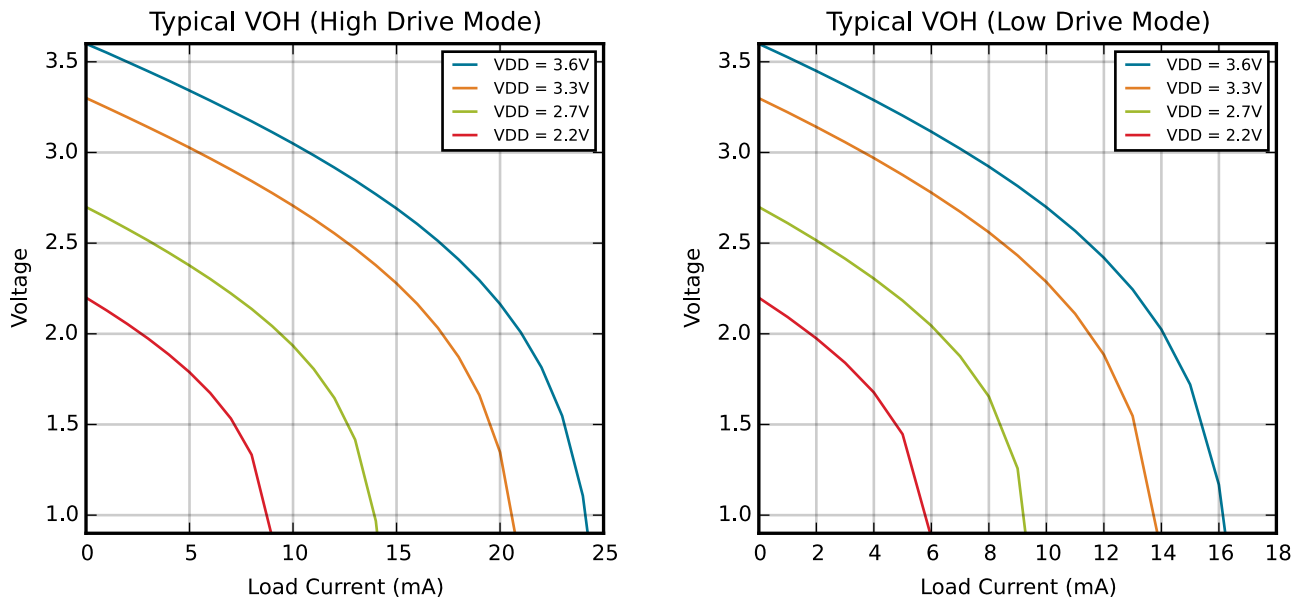
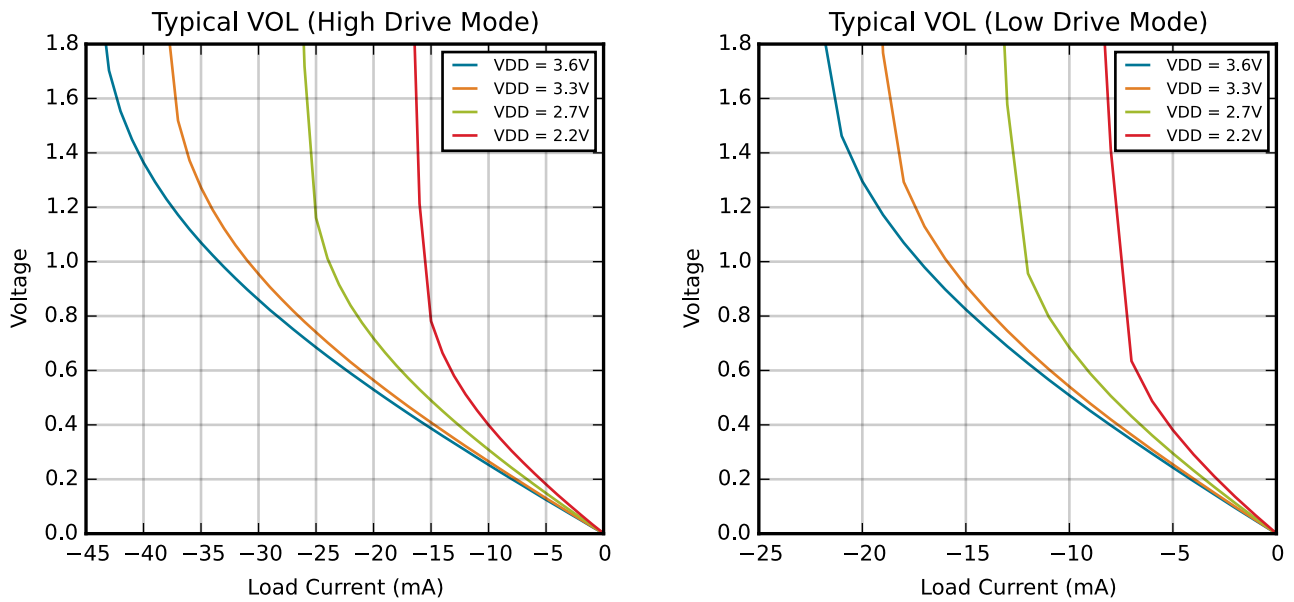

Figure 4.6. Typical V_{OH} Curves
Figure 4.7. Typical V_{OL} Curves
1. See Figure 4.6 Typical V_{OH} Curves on page 32 and Figure 4.7 Typical V_{OL} Curves on page 32 for more information.